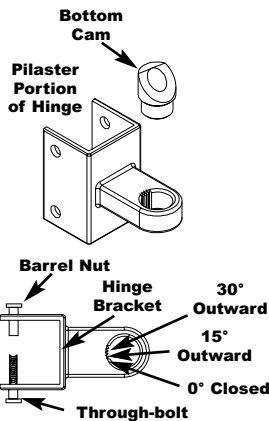

FIGURE 8
- The cam should be set to same desired position on upper and lower hinge assemblies. See figure 8.